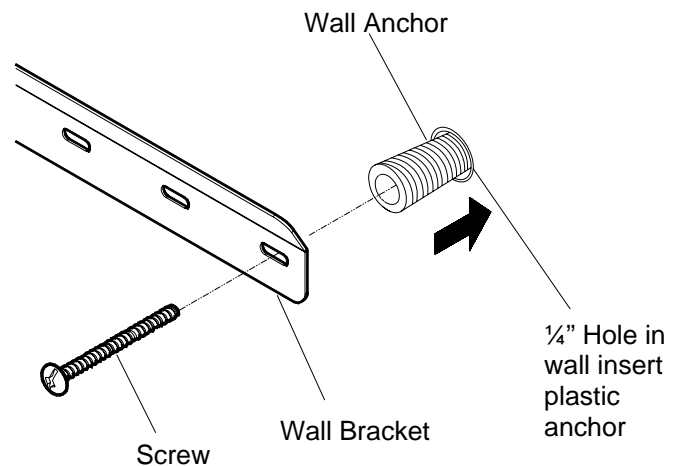

FIGURE 2
14. Insert the wall anchor screws through the wall bracket and thread into the wall anchors. Tighten the screw. (FIGURE 2)